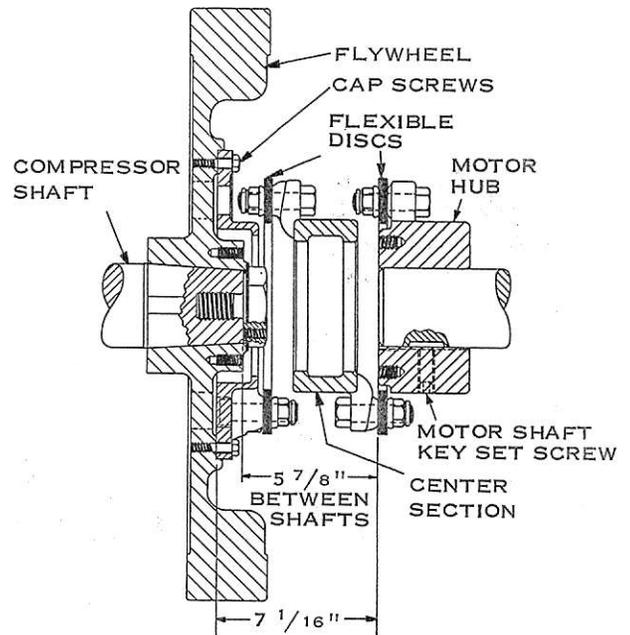

FIG. 8— Flexible Coupling and Flywheel
- Disassemble the coupling. Note that the compressor half of the coupling is attached to the flywheel by means of cap screws and the motor half mounts on the motor shaft. (See Fig. 8.) It is important to identify the position of all parts since they must be replaced in their original order. A string or wire should be inserted and fastened through one of the bolt holes of each set of laminated rings to retain the original position of the individual discs.
It may be necessary to heat the motor hub so it will slide more easily on the motor shaft. Place the key in the shaft keyway and slide the heated motor hub in position, flush with the end of the motor shaft. (See Fig. 8). Tighten the set screw.
- NOTE: A minimum distance between coupling flanges is required so that the coupling can be assembled or disassembled without moving the motor. (Refer to Fig. 8.)
13. Bolt the flexible discs to the coupling hubs. Then bolt the center piece in place. (See Fig. 8)